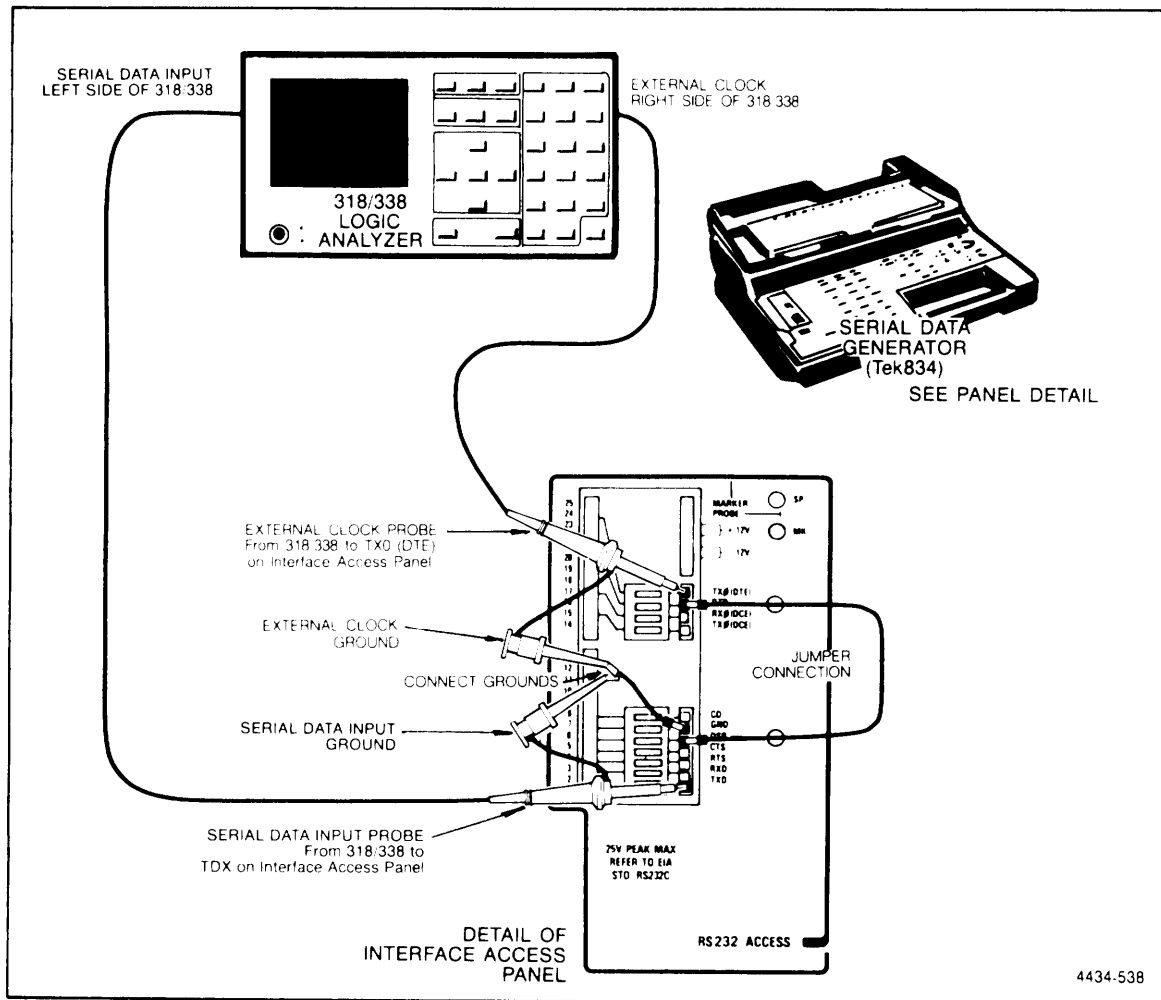

Figure 5-65. 338 Serial state analyzer performance test setup.
6. Connect test setup as shown in Figure 5-65.